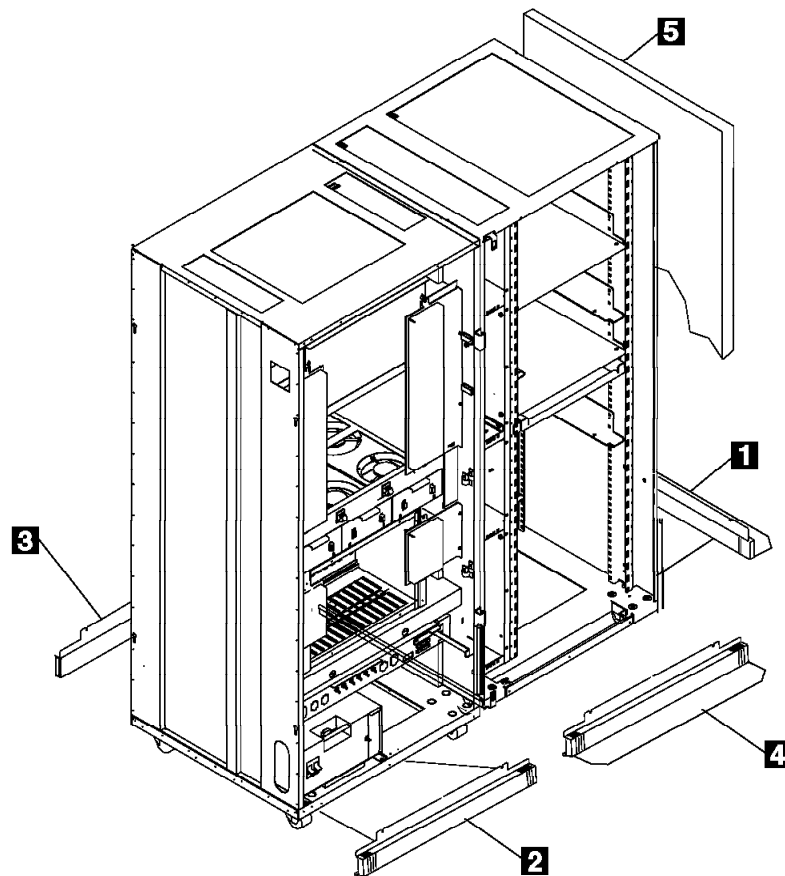

Figure 9-3. 3746-900 and Controller Expansion Ground Brackets (Front View)
- a. ____ Install the front ground plate **4** (PN 58G5675) and left ground plate **1** (PN 58G5676) using screws (PN 2665527) (refer to Figure 9-3).